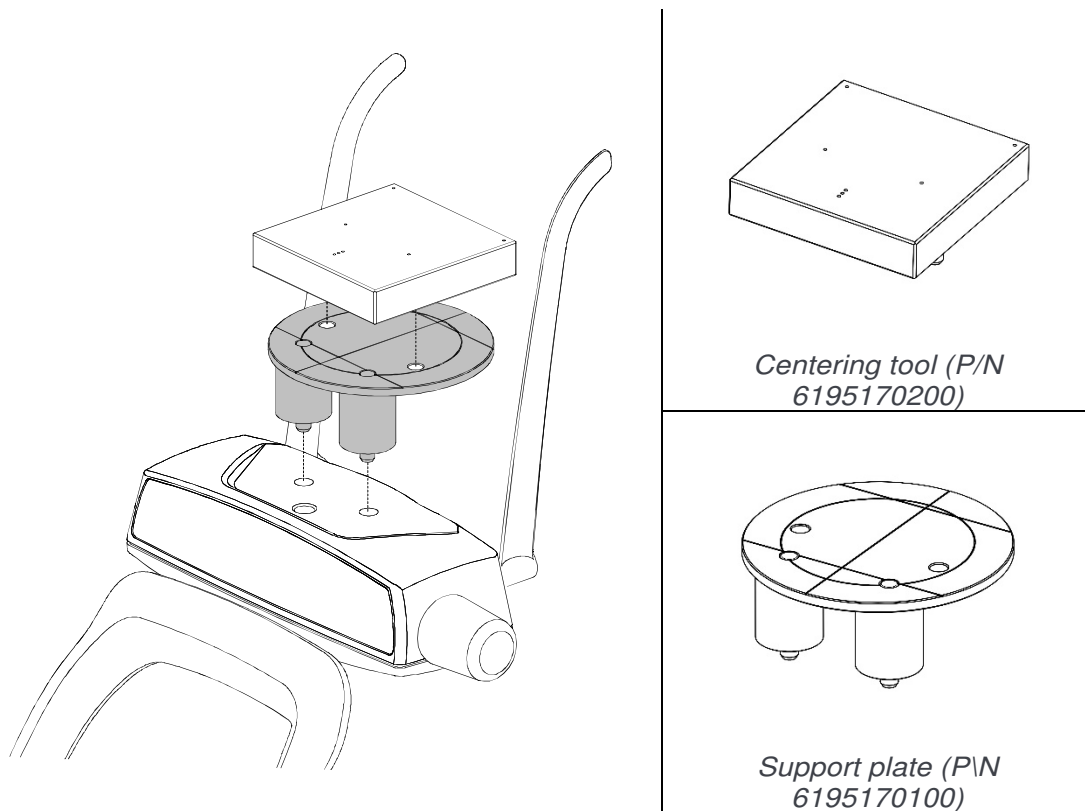

Figure 7: Support plate and centering tool positioning
At the end of the axis positioning, place the support plate (P/N 6195170100 - Figure 7) on the chin rest support and power ON the laser. Check that the mid-sagittal laser beam is aligned to the reference line of the support plate ($\pm 3\text{mm}$).
4. Mount the centering tool on the support plate, and place it on the chin rest support (Figure 7).